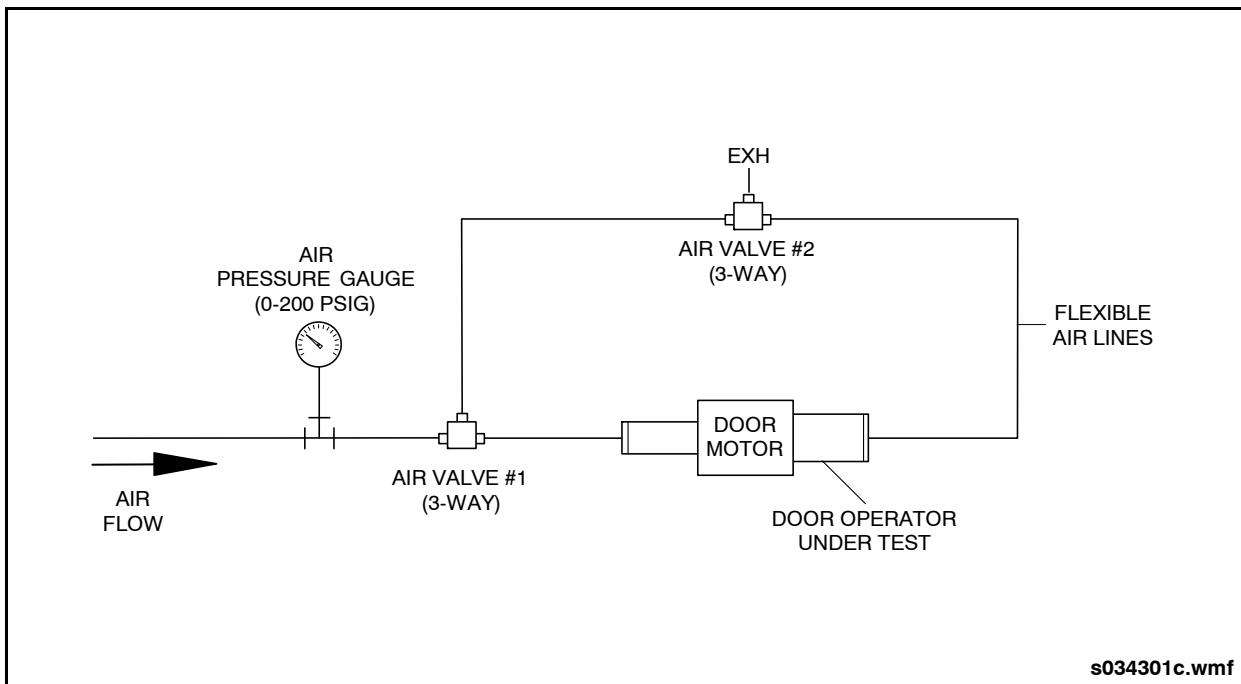

Fig. 16-12: Door Operator Test Schematic
3. Connect the air lines, pressure gauge, and shutoff valves as shown in the test schematic. Use an air supply regulated to 120 to 125 psi. See "Fig. 16-12: Door Operator Test Schematic" on page 24.